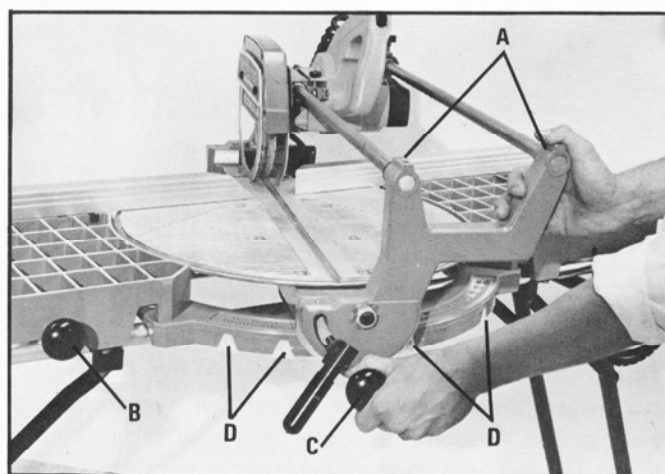

Fig. 22
To rotate the track arm (A) Fig. 22, for straight cut-off or miter cuts, proceed as follows:
1. Pull out fence lock clamp handle (B) Fig. 22, to release clamping action of both fences.
2. Unscrew arm lock knob (C) Fig. 22, one quarter of a turn. Pull out arm lock knob (C) Fig. 22, and rotate arm (A) to the desired angle. Positive index stops (D) are provided at 0, 31 5/8 and 45 degrees, right and left. The 31 5/8 degree positive stop is used for cutting crown moulding. When arm is at desired position, tighten arm lock knob (C) and push in on fence clamp handle (B).